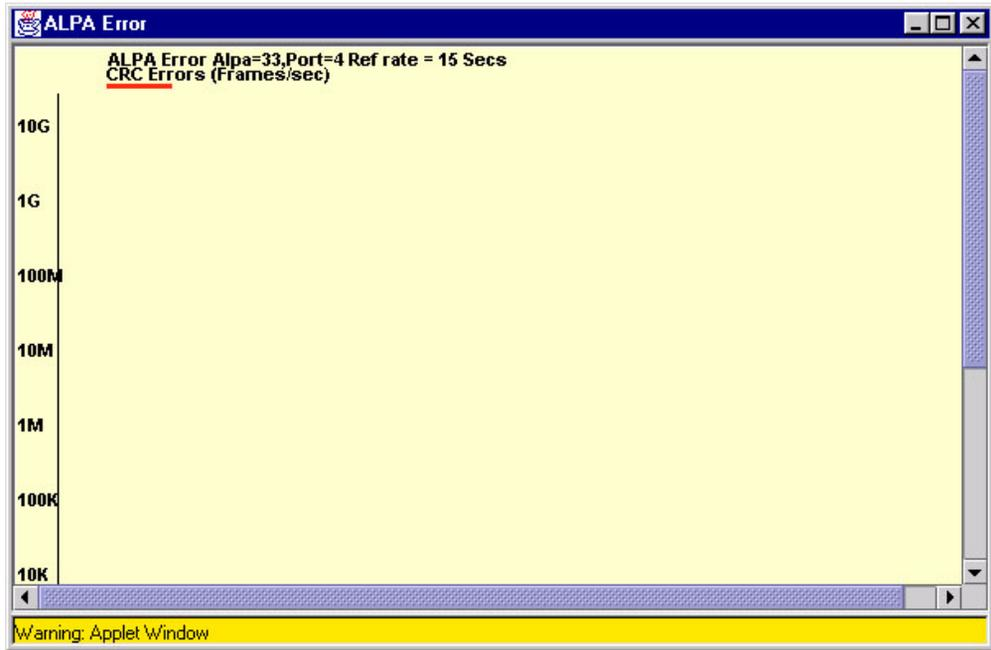

Figure 4–38: ALPA Error graph example
5. Click **OK**. An ALPA Error graph will be displayed. An example of an ALPA Error graph, displaying CRC errors for a given port and a given ALPA, is shown in Figure 4–38.